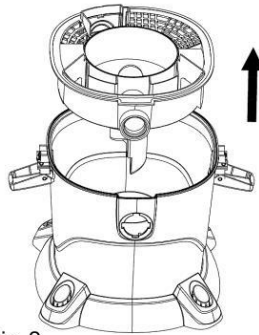

Fig.2
Step 2: Lift the filtration assembly and unpack the casters and attachments from the barrel (Fig. 2).